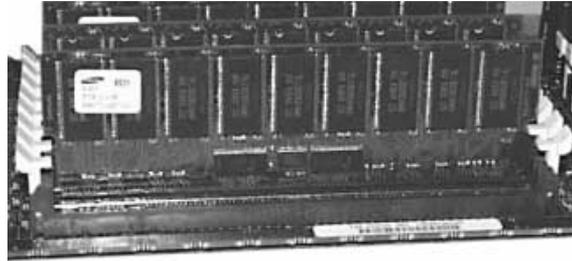

Figure 3-3 DIMM Orientation in a Memory Module
2. Orient the DIMM so that the two notches in the bottom edge of the DIMM align with the keyed socket on the memory module. See Figure 3-3.